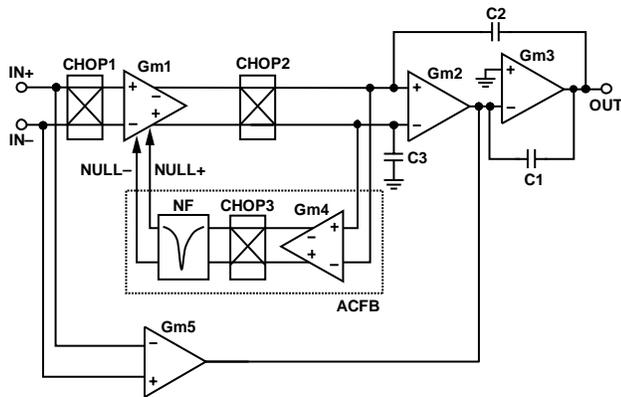
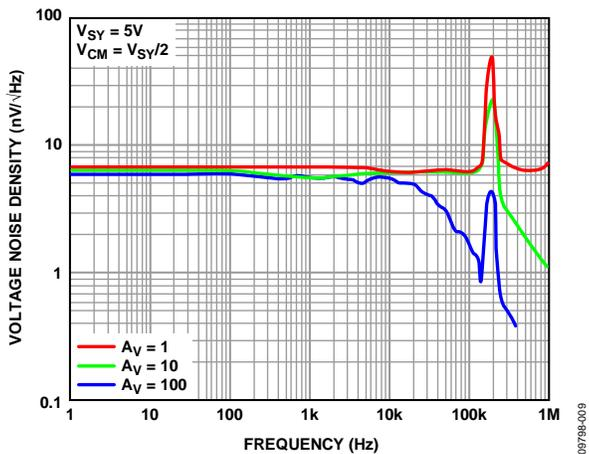

Figure 1. Amplifier Block Diagram
Figure 8. Voltage Noise Density vs. Frequency at Different Closed-Loop Gains
Figure 1 shows the ADA4528-1 amplifier block diagram. It consists of a high dc gain path with autocorrection feedback (ACFB) in parallel with a high frequency feedforward path. The high dc gain path consists of an input chopping switch network (CHOP1), a first transconductance amplifier (Gm1), an output chopping switch network (CHOP2), and second and third transconductance amplifiers (Gm2 and Gm3). The ACFB loop contains a fourth transconductance amplifier (Gm4), a chopping switch network (CHOP3), and a switched capacitor notch filter (NF). Finally, the high frequency feedforward path is made up of a fifth transconductance amplifier (Gm5). The chopping frequency, f_{CHOP} , of all chopping switch networks is designed to operate at 200 kHz.
This analysis is valid for a flatband noise calculation. If the bandwidth of concern includes the chopping frequency, more complicated calculations must be made to include the effect of the noise spectrum at the chopping frequency (see Figure 8).
First, the voltage ripple is part of the residual ripple associated with the initial offset G_{m1} (see Figure 1). This ripple creates higher noise spectrums at the chopping frequency (200 kHz) and its harmonics. Figure 8 shows the voltage noise density of the ADA4528-1 vs. frequency in three different gain configurations. The amplifier in the unity gain configuration has a noise spectrum of 50 nV/ $\sqrt{\text{Hz}}$ at 200 kHz. This noise spectrum is significant when the op amp has a closed-loop bandwidth that is greater than the chopping frequency. However, with a higher gain, the noise spectrum becomes less significant due to the natural gain roll-off characteristic of the amplifier. Therefore, the ADA4528-1 is excellent for use in dc high gain configuration with its ultralow noise, offset voltage, and drift capability.